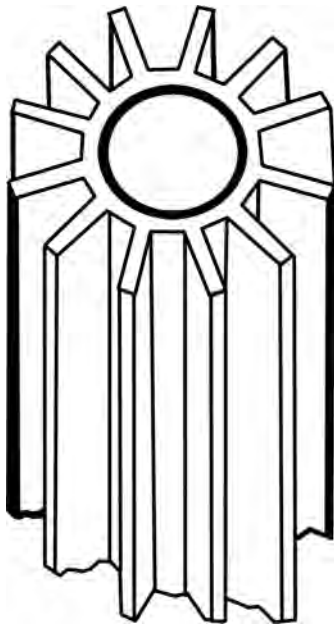

FIGURE 13.5 Extended axial finned tube.
- *Extended Axial Fins:* See Figure 13.5.